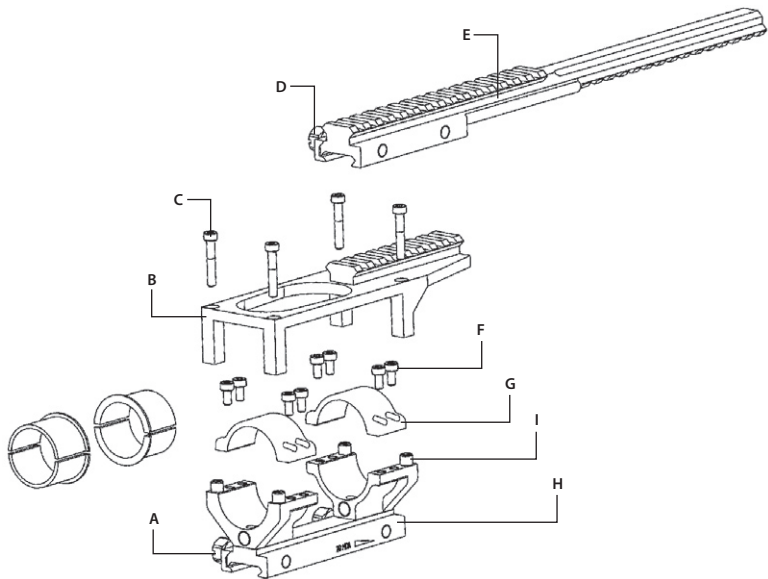

FIGURE 3-6. OPTIONAL FSRs SYSTEM. COMPONENT PARTS
The FSRS system is delivered ready-assembled. The components of the FSRS system are shown in Figure 3-6.
Dismantle the FSRS system as follows (see Figure 3-6):
1. Loosen the nuts (A, Figure 3-6). Install the mount (H) on the weapon's Picatinny/ Weaver rail; the two pins of the mount's clamping device should be secured in the transverse slots of the rail. Manually retighten the nuts (A).